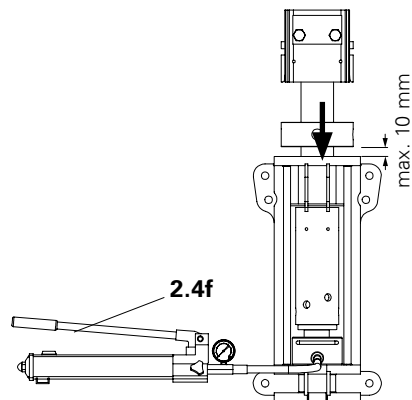

Fig. 22
5. Raise hydraulic cylinder max. 10 mm with the pump handle (2.4f). (Fig. 22)